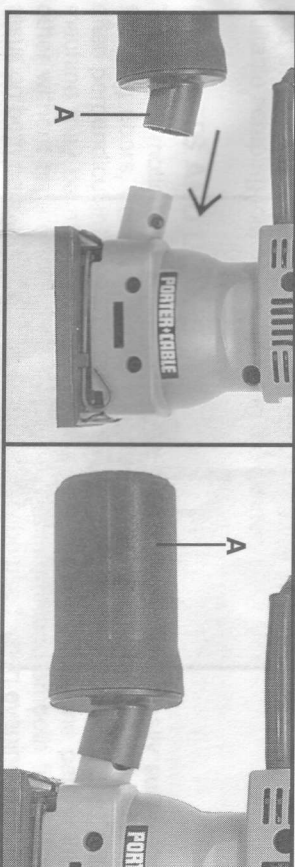

Fig. 11
2. Position dust collector (A) Fig. 11, to sander nozzle as shown. Seat collector firmly onto the nozzle.